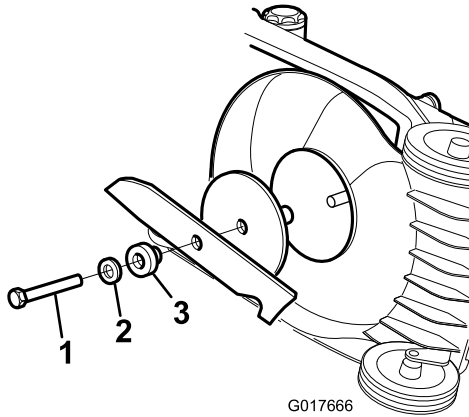

Figure 22
1. Grasp the end of the blade (Figure 22) with a rag or thickly padded glove.
Install a sharp, balanced blade and the blade bolt. The sail part of the blade must point toward the top of the mower housing to ensure correct installation. Tighten the blade bolt to 54 N-m (Figure 22).